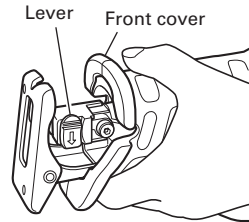

Fig. 1
- (1) Turn on and off the switching trigger several times so that the lever can jump out of the front cover completely. Thereafter, turn off the switch and unplug the power cord. (Fig. 1)
- Do not remove the front cover (refer to Fig. 1). Be sure to hold the body from the top of the front cover.